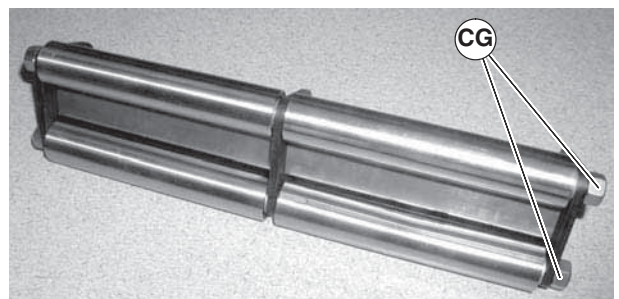

Figure 68
5. Remove hex nuts (Figure 68, item CG).